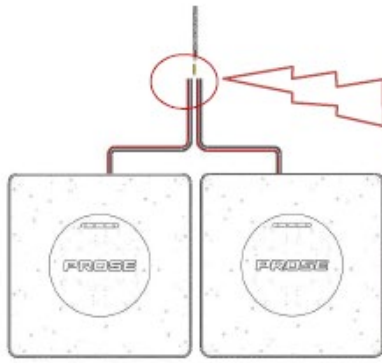
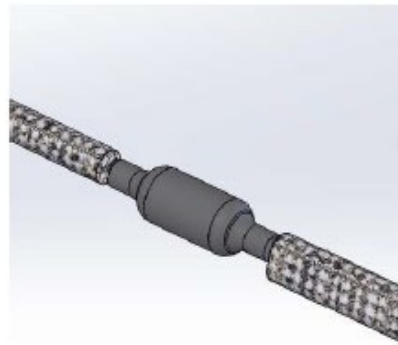
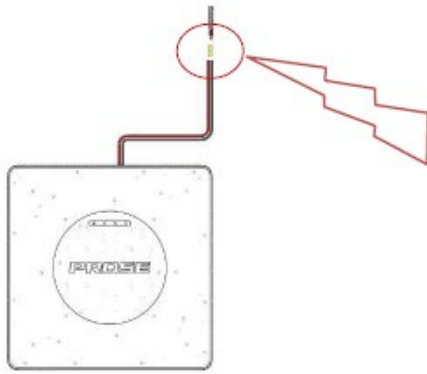

Figure 3-39
Figure 3-46
Figure 3-47
2. Insert power line into copper pipe, then press flat copper pipe with vise, finally intertwine copper pipe with electrical tape (Figure 3-39 ~ Figure 3-46, Figure 3-47 ~ Figure 3-53).